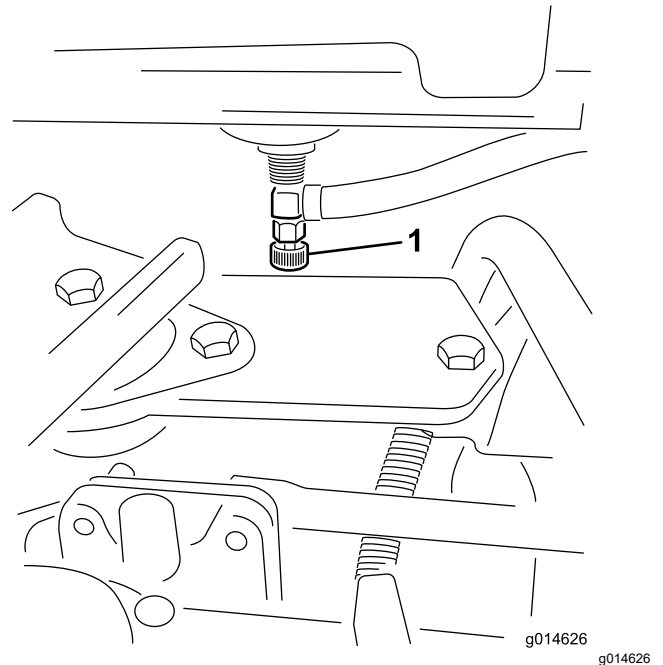

Figure 37
1. Close the fuel-shutoff valve (Figure 37) below the fuel tank.